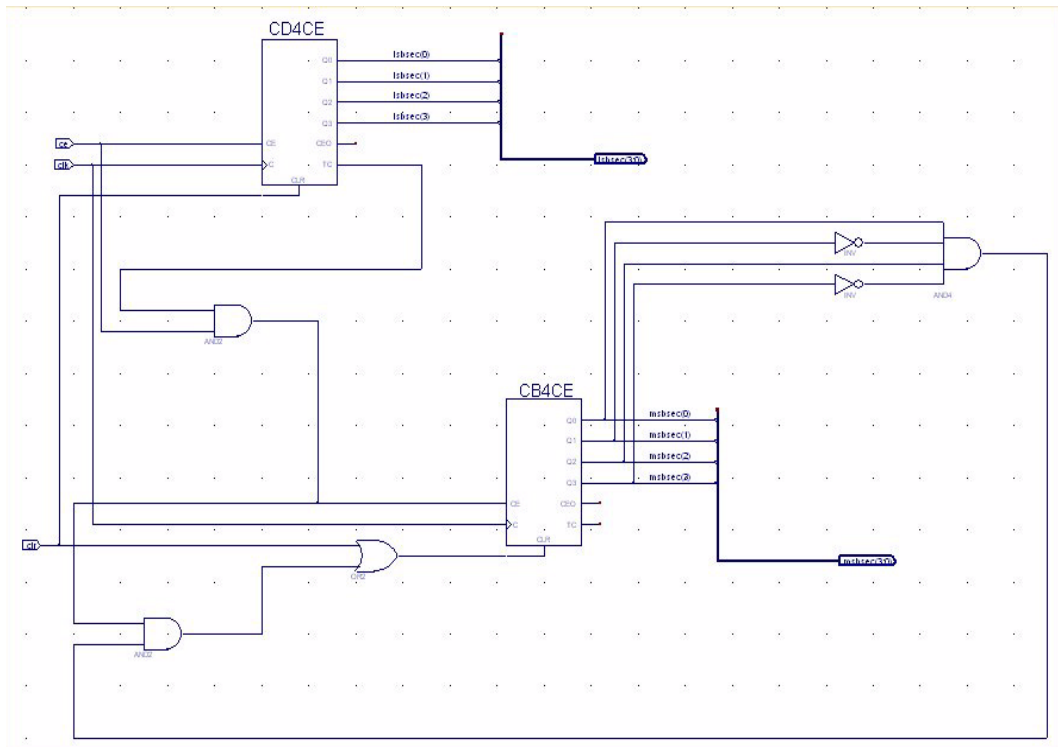

Figure 2-8 Completed CNT60 Schematic
Follow the steps listed previously in the “Adding Components to CNT60” section to place the CD4CE, OR2, CB4CE, INV, and AND4 components on the schematic sheet as shown in Figure 2-8. For a detailed description of the functionality of each of these components, refer to the Xilinx *Libraries Guide*.
Draw the nets to connect the remaining components as shown in the Figure 2-8. Net names will be added in a later section. To draw a net between an already existing net and a pin, click once on the component pin and once on the existing net. A junction point will be drawn on the existing net.
9. Compare your CNT60 schematic again with the Figure 2-8 to ensure that all connections are made properly.
Follow these steps to add the I/O markers as shown in Figure 2-8.